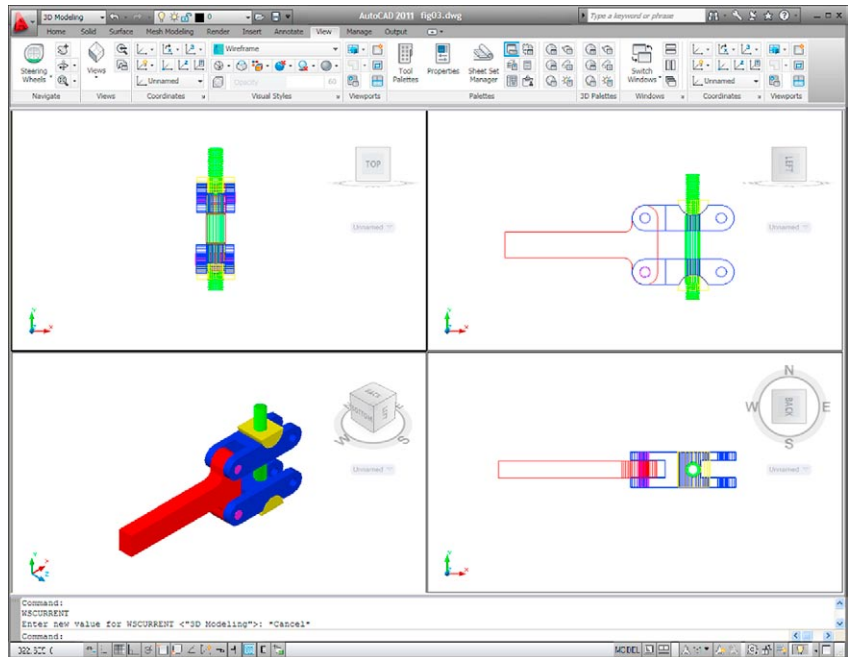

Fig. 14.4 First example – inserting 3D blocks
First example – inserting 3D blocks (Fig. 14.4)
7. Using the **Move** tool, move the individual 3D models into their final places on screen and shade the **Isometric** viewport using **Conceptual** shading from the **Home/View** panel (Fig. 14.4).